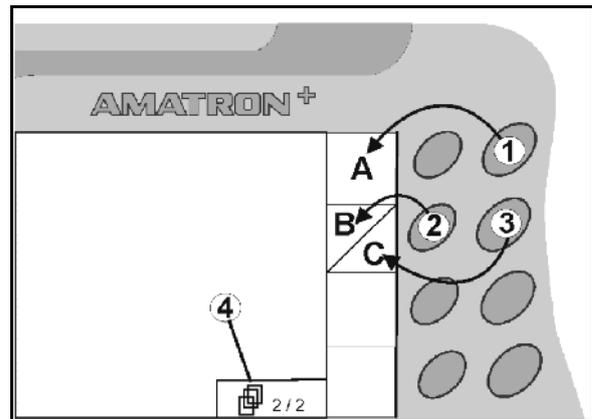

Fig. 7
- If boxes appear on the display, only the right key (Fig. 7/1) is assigned to the function field (Fig. 7/A).
- the left key (Fig. 7/2) is assigned to the top left function field (Fig. 7/B).
- the right key (Fig. 7/3) is assigned to the bottom right function field (Fig. 7/C).
<ul style="list-style-type: none"> • Scroll to other menu pages (only possible if (Fig. 7/4) appears in display) • Multi-function stick learning menu